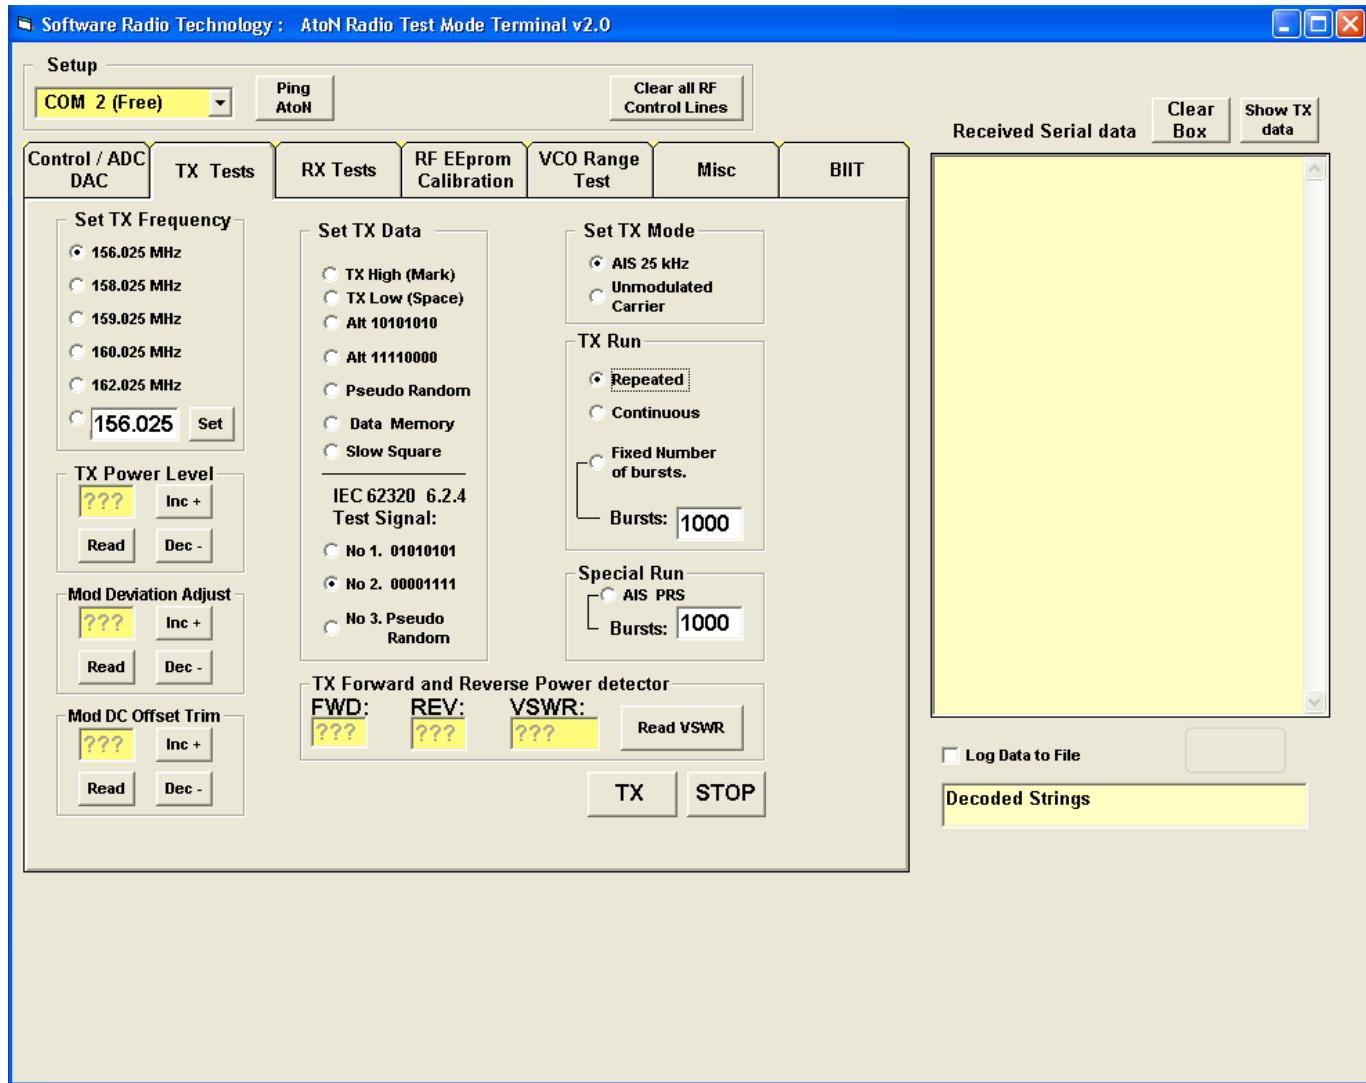

Figure 5
4. Select the “**TX Tests**” tab and select the following: (per Figure 5). **Set Tx Frequency** to 156.025MHz. (Min.) Under **IEC 62320 6.2.4 Test Signal** select test signal No. 2 (00001111). **Set TX Mode** to AIS 25 kHz. (This will automatically be selected with the selection of test signal No. 2) and set **TX Run** to **Repeated**.